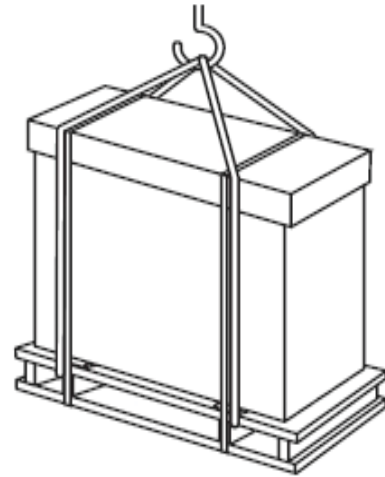

Fig. 3.1 Lifting Work for Transportation
- Lift the unit under packing condition with two (2) ropes, as shown in Fig. 3.1.